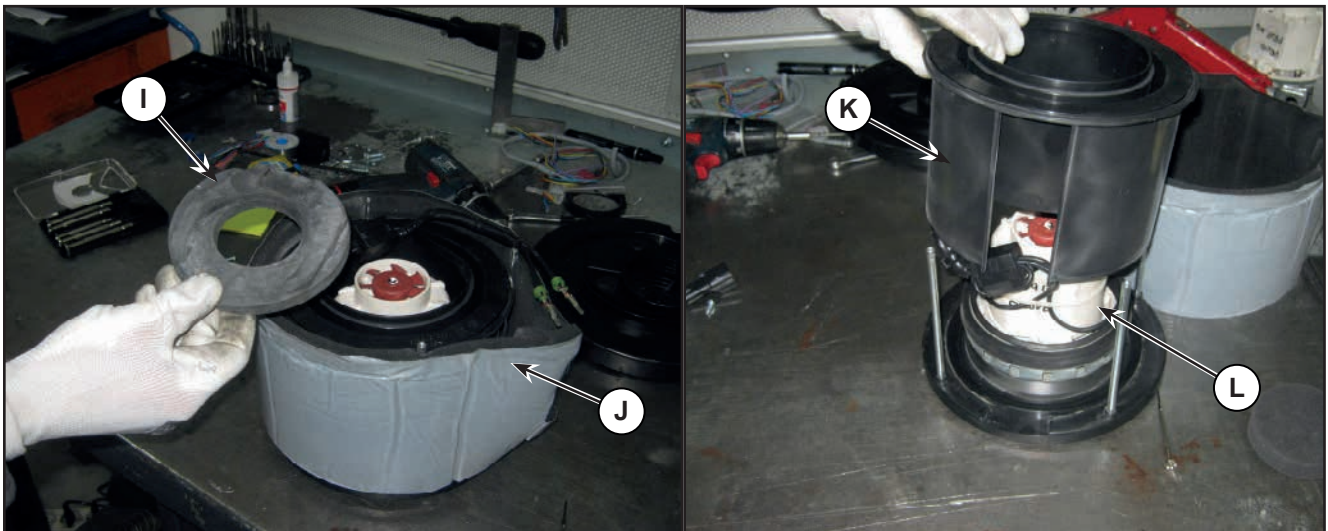

Figure 9:
8. Remove the soundproofing (I) (Figure 9) and (J).
9. Remove the protection (K) to reach the vacuum system motor (L).